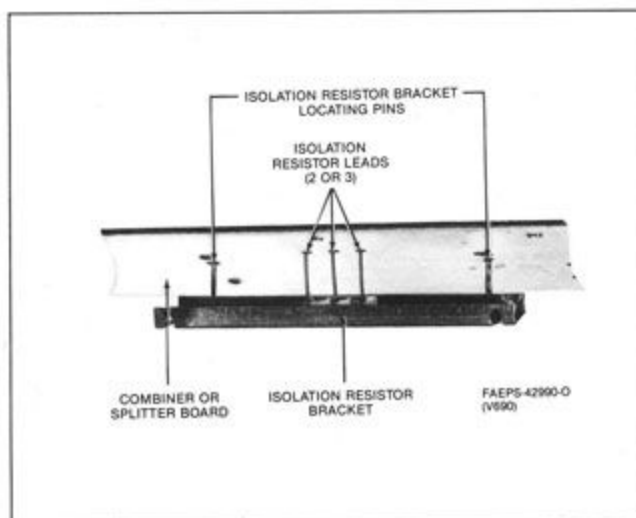

Figure 6.
Step 9. Remove combiner board from heat sink with isolation resistors suspended below the board by the isolation resistor bracket locating pins (see Figure 6). It
tor leads should *not* be soldered to combiner board at this time. Refer to Figure 6.
Step 8. Remove splitter board/wire harness assembly from heat sink with isolation resistor suspended below the board by the isolation resistor bracket locating pins (see Figure 6). It may be necessary to free the isolation resistor bracket from the heat sink due to thermal compound under the bracket; this should be done by using a
Step 4. Suspend isolation resistor beneath splitter board by the isolation resistor bracket locating pins, with the isolation resistor leads protruding through the appropriate holes in the splitter board. Isolation resistor leads should *not* be soldered to the splitter board at this time. Refer to Figure 6.
Refer to Figure 6 for reference.